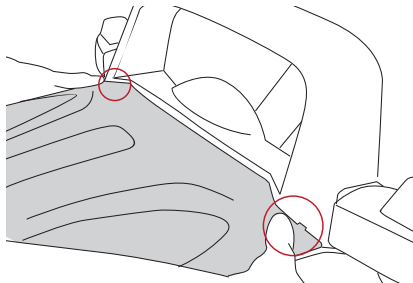

Figure 22
- Close the hood and push down on the back of the hood so that the tabs on the hood fit into the windshield slots. See Figure 22.